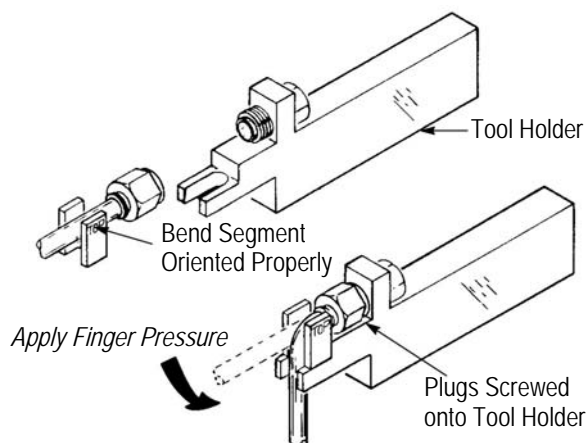

Figure 15
1. Screw the terminated plug onto the dummy jack of the tool holder. See Figure 15.
2. Slip the appropriate bend segment under the cable as shown in Figure 15.